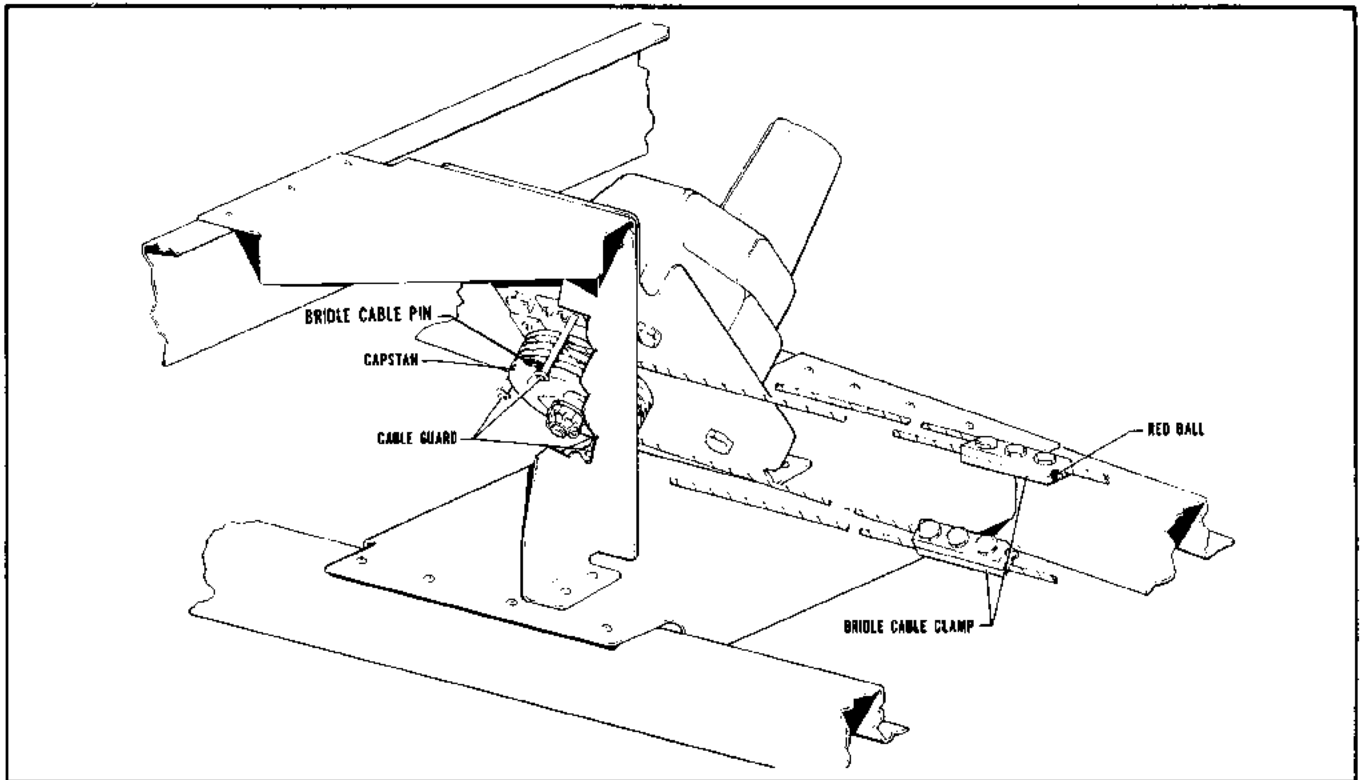

Figure 3-16. Pitch Servo Installation, PA-23-250
### 3-21. INSTALLATION OF PITCH SERVO. (PA-23-250 Six Place) E Model. (Refer to Figure 3-16.)
- e. **REFER TO FIGURE 3-9 AND CHECK THAT THE CONTROL CABLE TENSION (Z) IS ADJUSTED TO  $35 \pm 4$  POUNDS PRIOR TO ATTACHING THE BRIDLE CABLE CLAMPS.** Ascertain area on cable where clamp attaches is clean, dry and free of all lubricants and anti-corrosive additives. Attach the bridle cable to the stabilator control cables. The bridle cable is drawn to the stabilator control cables and attached with clamps at the previously painted locations. The end of the bridle cable with the red ball is attached to the left control cable. (Refer to Figure 3-16.) (Should the stabilator cables not be painted, position the control wheel full forward and with the servo disengaged, align the bridle cable pin installed in the capstan as shown in Figure 3-16. Adjust the bridle cable clamps so that the bridle cable tension (Y) as shown in Figure 3-9 is  $15 \pm 2$  pounds. Check the control cable tension forward of the bridle cable clamps and adjust, if necessary to obtain  $35 \pm 4$  pounds. If the control cables require adjustment, it will be necessary to readjust the bridle cable tension to  $15 \pm 2$  pounds. Torque the bridle cable clamp bolts to  $55 \pm 5$  inch-lbs.